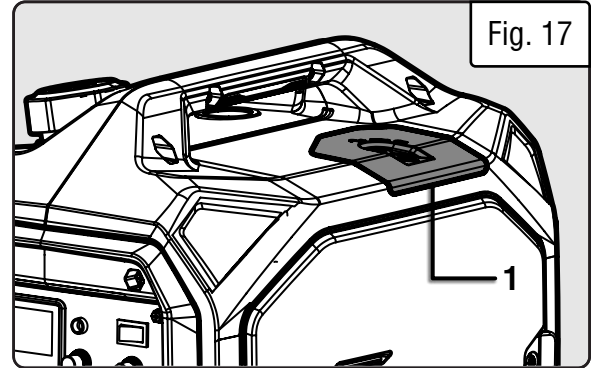

Fig. 17
1. Use a coin or flat-head screwdriver to turn the latch screw on the spark plug access cover (Fig. 17 - 1) a quarter turn counterclockwise, then slide the cover off.